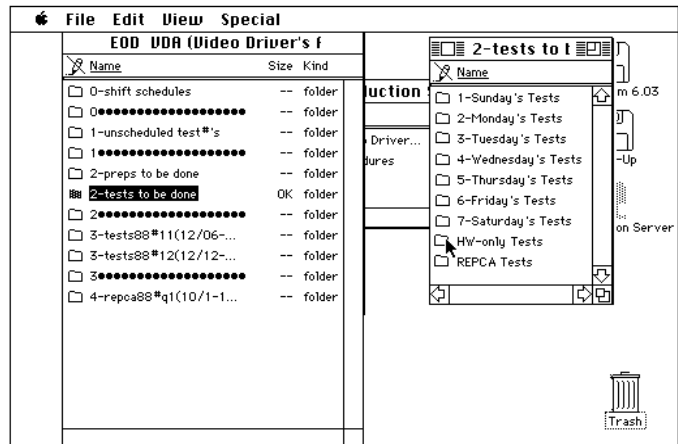

Figure 12
- 12.2 Position the mouse pointer on the tests folder for the applicable day of the week and double click to open it (the following example is for HW-only Tests). See Figure 12.